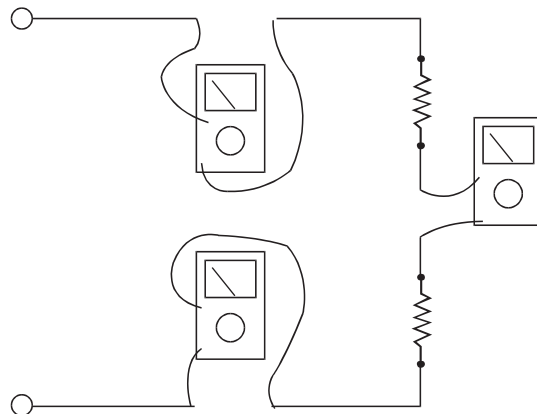

Figure 6—Ammeter connections to measure the same current at different points in a circuit
5. Connect the tips of the probes across the break in the circuit as shown in Figure 6 so that the current to be measured flows through the meter. Note that this is a series connection. Never connect the ammeter in parallel with the source or load, as this will cause a short circuit and damage the meter.